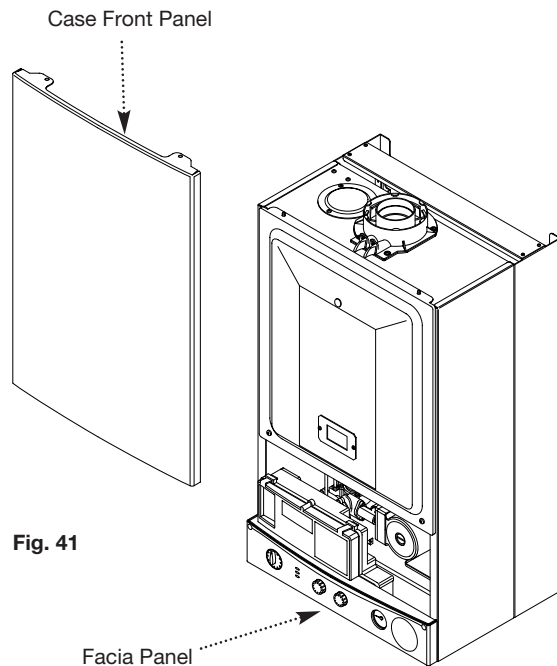

Fig. 41
5. Slacken the screws securing the fascia panel. Lift the outercase panel so that its securing tabs are clear of the fascia. Remove the panel (Fig. 41).